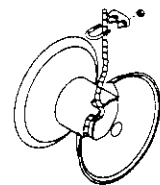

Figure 16 - Installing Cable Clamp
5. Fasten the cable clamp onto cable and then push the assembly back into the slot (See Figure 16).